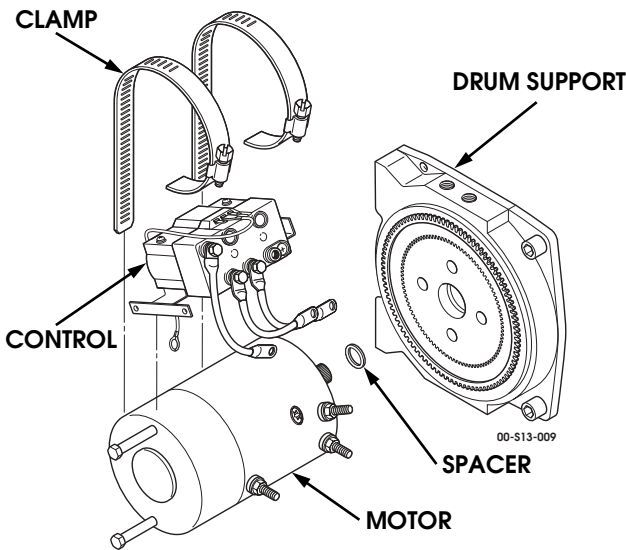

Figure 13-22: Control Unit and Motor
3. Loosen clamps and remove control from motor (Figure 13-22).